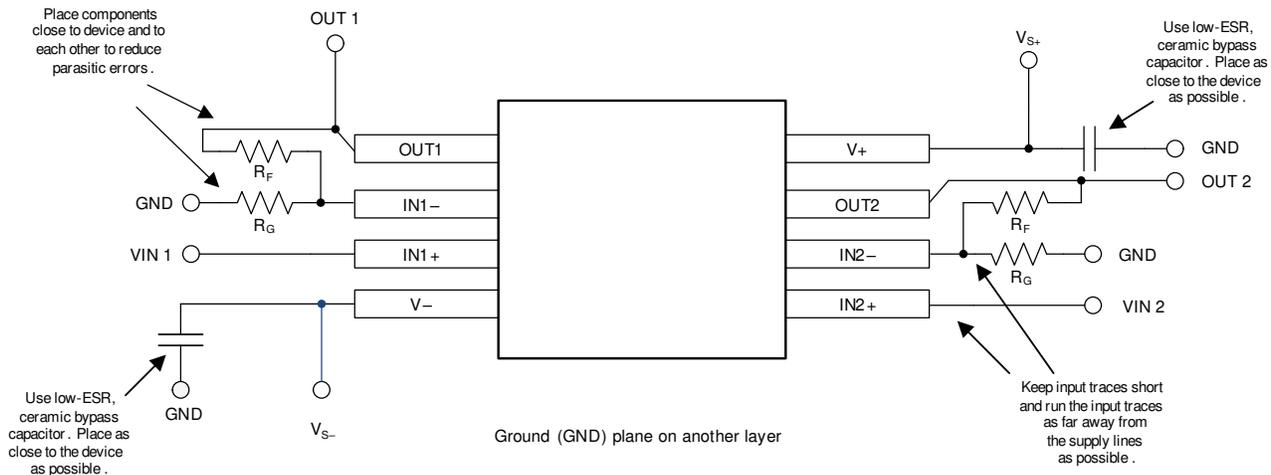

Figure 8-4. Layout Example
- Place the external components as close to the device as possible. As illustrated in Figure 8-4, keeping RF and RG close to the inverting input minimizes parasitic capacitance on the inverting input.